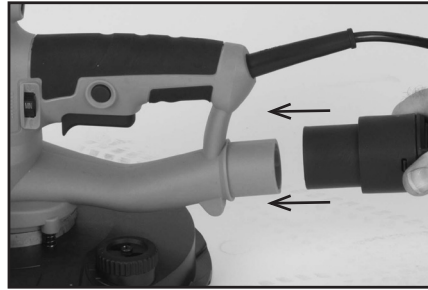

Fig. 9
- Connect the dust extraction hose to the machine by pushing it onto the machines dust extraction port. **(Fig. 9).**